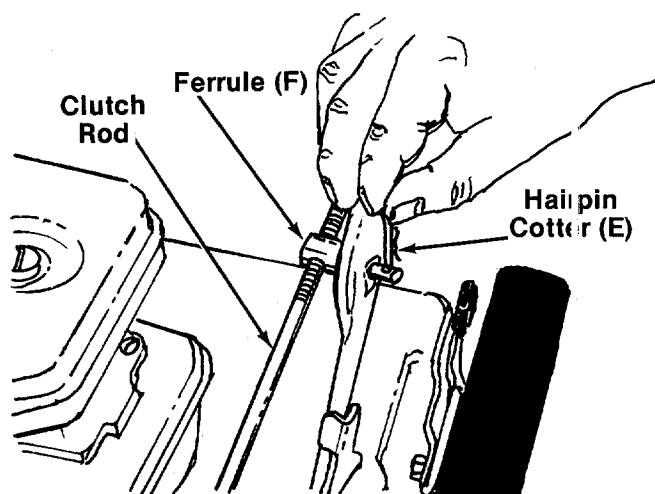

FIGURE 8.
15. Thread the clutch rod into the ferrule (F) until the ferrule lines up with the hole in the lower handle. Secure ferrule in handle with cotter pin (E) as shown in figure 8. Check for 1/8" clearance between drive pinion and front wheels. **See clutch rod adjustment** on page 10.
16. Insert plastic plug (H) into hole in the top rear of the deck by slipping one end of plug into hole, then pressing down on the other end of plug.
1. Remove the cotter pin. See figure 8.